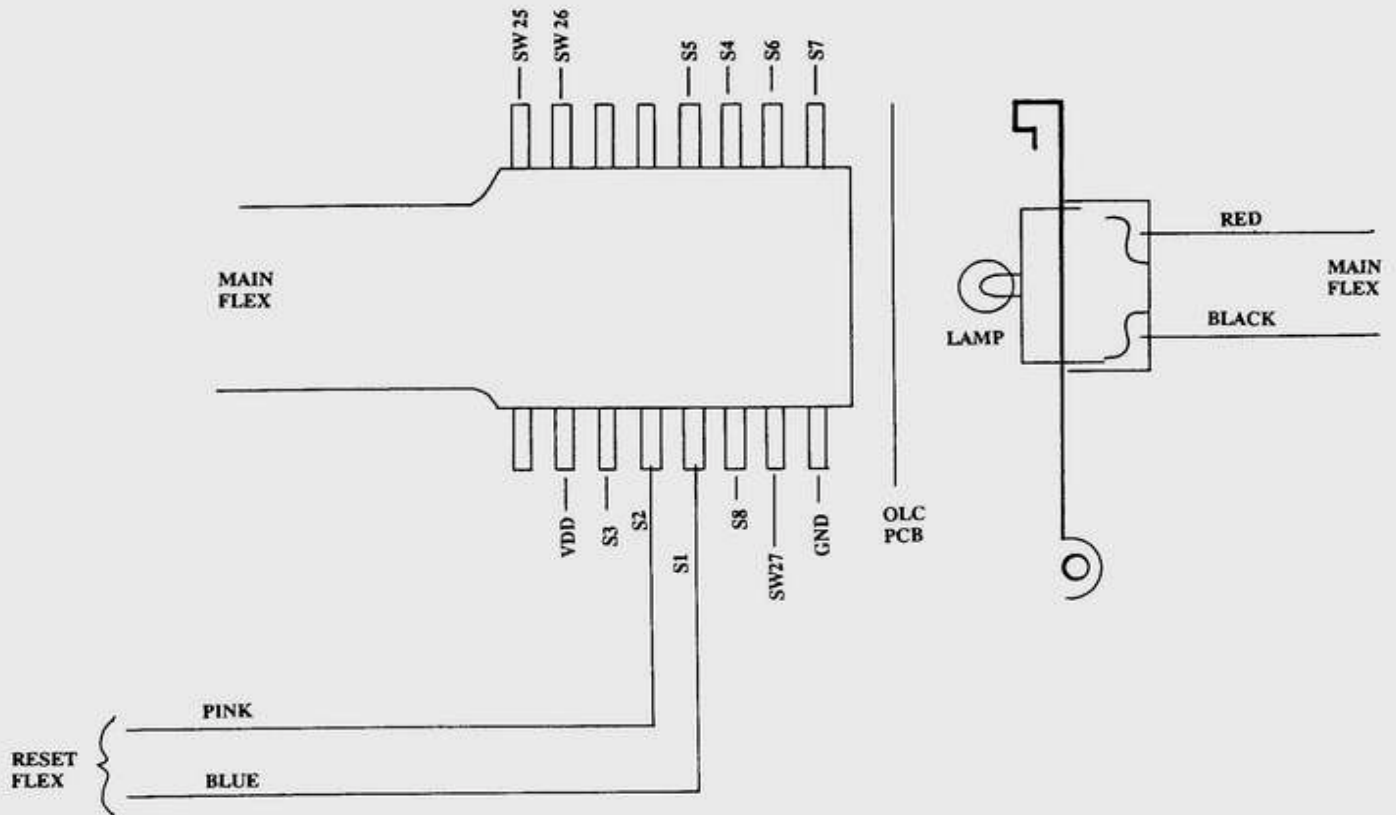

FIG. 26 - PICTORIAL, UNDERSIDE OF EXTERNAL LCD
4. **IC4.** On underside of main flex (under IC3), Fig. 26. Serial digital I/O interface that handles communication between IC3 and IC5 (sub CPU). Drives the release magnet, aperture magnet, and shutter-magnet transistors on command from IC3. Interface for the motor signals and the finder-display signals between IC3 and IC5. Communicates with the flash through the hot shoe. Supplied individually or as part of the main flex.
5. **IC5.** On underside of main flex (release side of pentaprism), Fig. 26. Sub CPU operating at 1MHz to control the viewfinder information and the motors. Drives IC6, IC7,